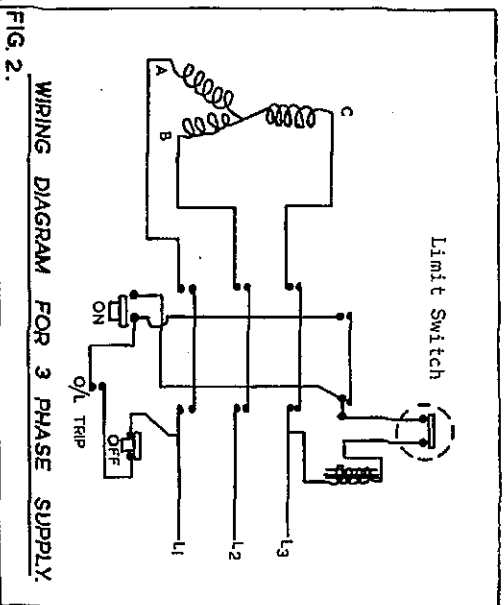
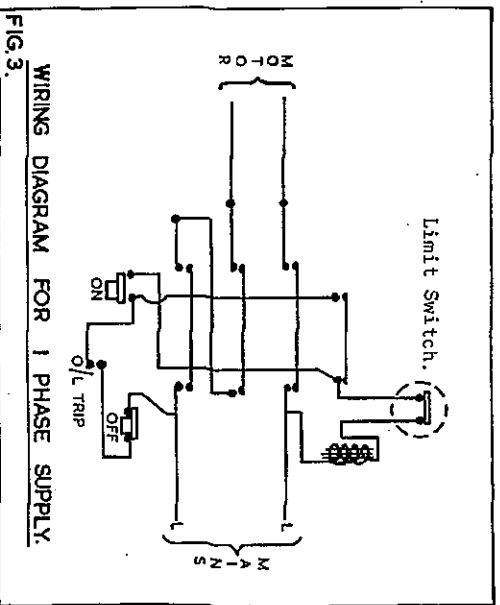

FIG. 2. WIRING DIAGRAM FOR 3 PHASE SUPPLY.
FIG. 3. WIRING DIAGRAM FOR 1 PHASE SUPPLY.
4. Connect the line leads to the appropriate terminals. See Fig. 2 for three phase supply. See Fig. 3 for single phase supply.